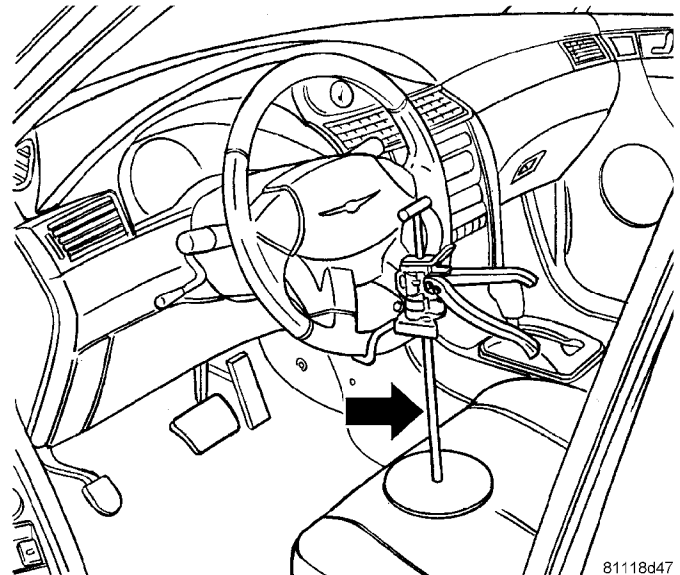

Fig. 1 Steering Wheel Holder
- (1) Place front wheels of vehicle in STRAIGHT-AHEAD position.
- (2) Install steering wheel holder locking steering wheel in STRAIGHT-AHEAD position (Fig. 1).
- (3) Remove negative (-) battery cable from battery and isolate cable.
- (4) Remove cap from power steering fluid reservoir.
- (5) Using a siphon pump, remove as much power steering fluid as possible from power steering fluid reservoir.